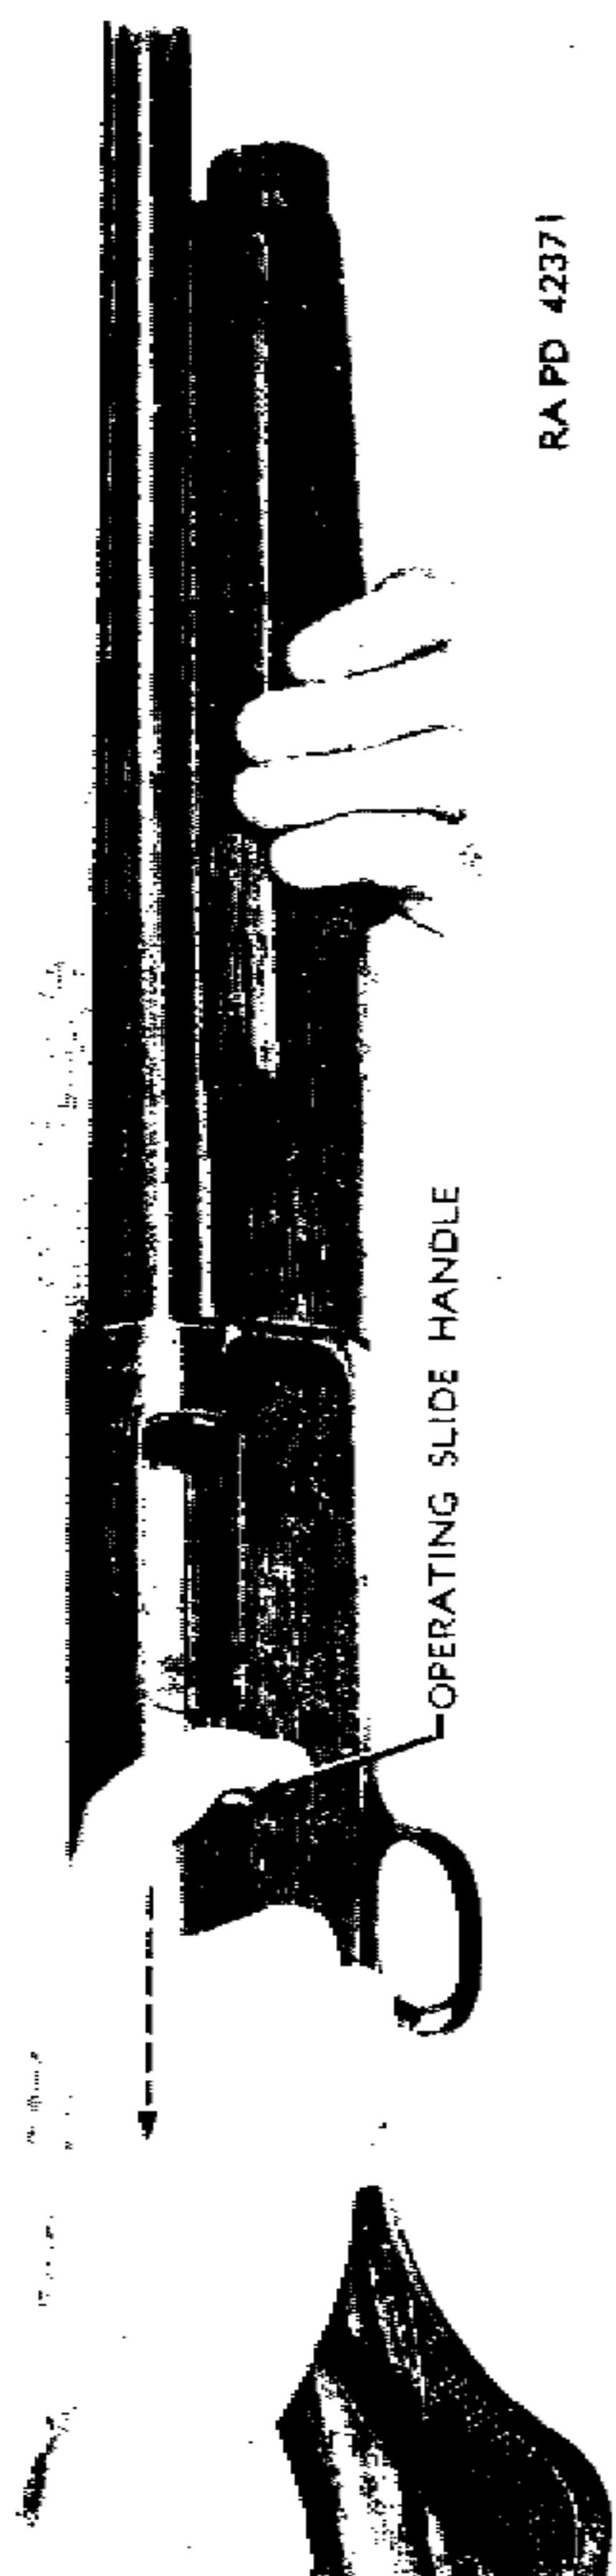

Figure 120—Retracting Breech Bolt—Savage Shotgun M720
a. This gun is of the semiautomatic type as already explained and is loaded and cocked by the force of recoil after the first shot. The only action necessary, thereafter, to fire the gun is to pull the trigger. The first shell, however, must be loaded into the chamber and the hammer cocked by manual operation. This is accomplished by retraction of the breech bolt by means of the operating slide (fig. 120).
(2) After a shell has been loaded from the magazine into the barrel, another shell may be loaded into the magazine (f above).
i. **To Load the Barrel Only.** With the magazine empty, set safety at safe by pushing all the way to the right and pull operating slide to rear and hang the bolt (fig. 120). Then, place a shell, nose forward, into ejection opening in the right side of the receiver and allow it to settle on the carrier. With fingers clear of ejection opening and path of the operating slide handle, press carrier latch button. The breech bolt will thus be released to spring forward; move the shell into the barrel and close and lock the gun. The barrel is now loaded and the hammer cocked. With the barrel loaded, it is best to allow the safety to remain at safe to block the trigger unless the gun is to be fired immediately.